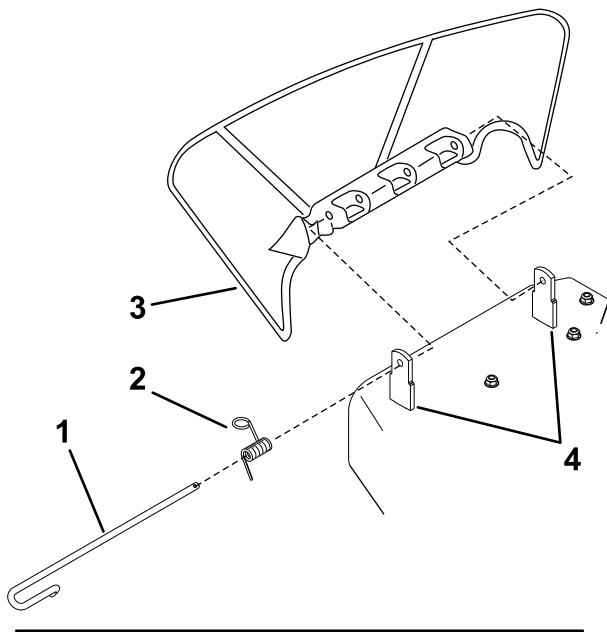

Figure 58
- Disengage the spring from the notch in the deflector bracket and slide the rod out of the welded deck brackets, spring, and discharge deflector (Figure 58).
- Position the new discharge deflector with the bracket ends between the welded brackets on the deck as shown in Figure 58.